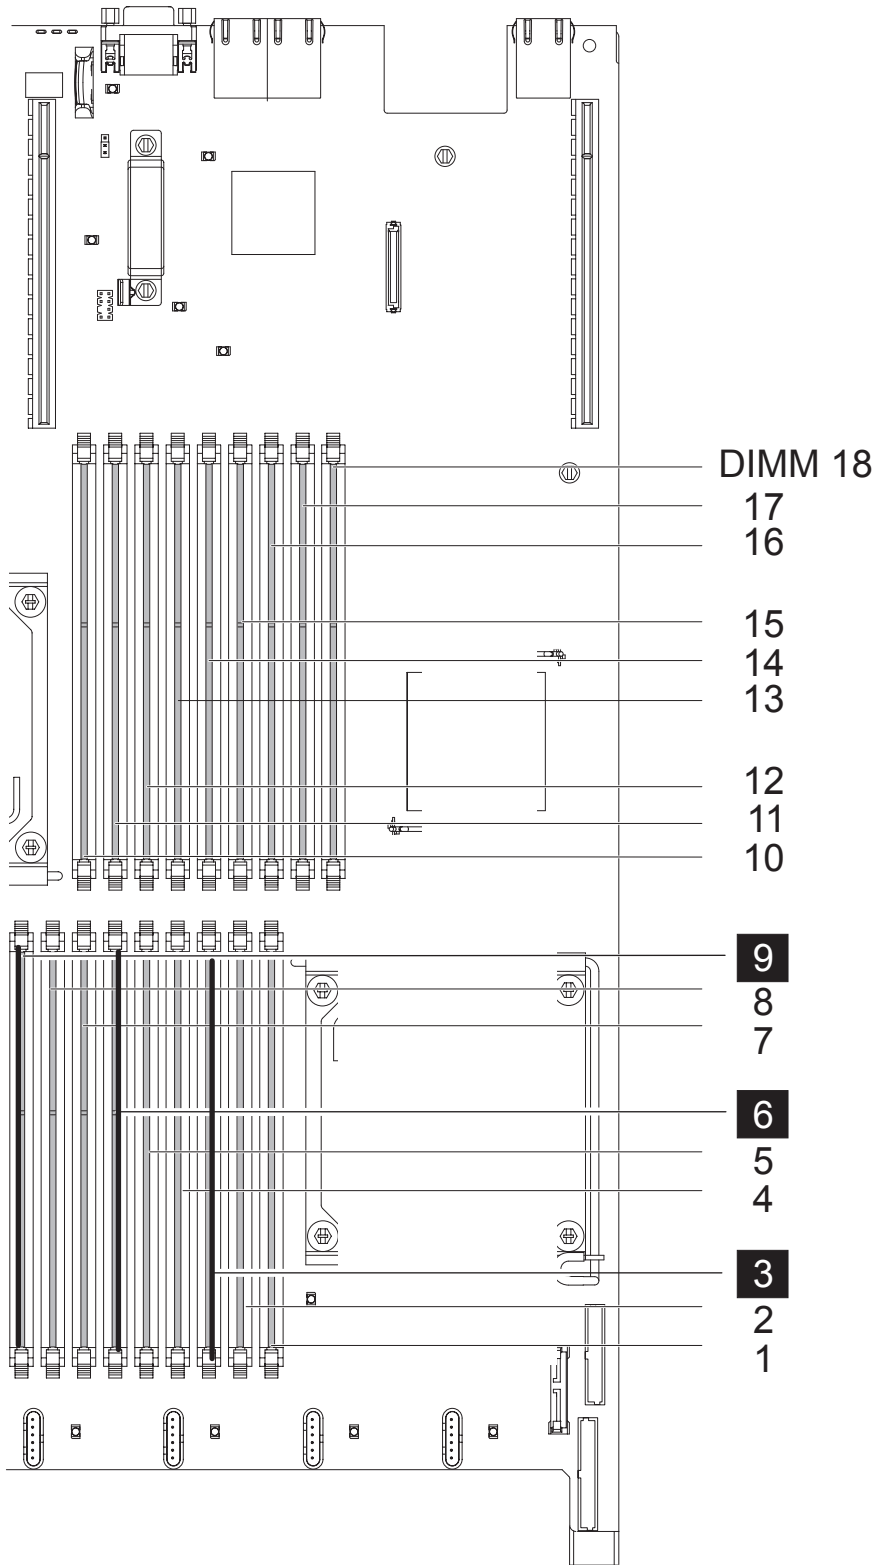

Figure 90. Locating the SAN Volume Controller 2145-CG8 memory modules
- SAN Volume Controller 2145-CG8: The SAN Volume Controller 2145-CG8 node uses three modules in DIMM slots **3**, **6**, and **9**, as shown in Figure 90 on page 102.